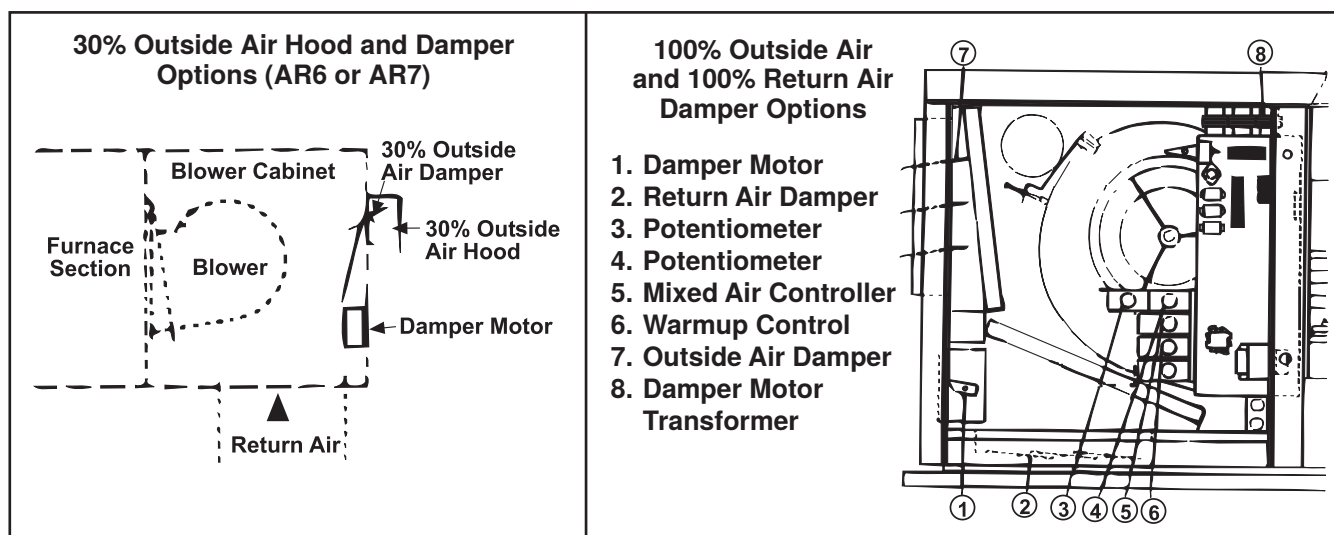

Figure 19. Damper Controls
- For specific damper control options (see Figure 19), refer to the wiring diagram provided with the unit. To adjust dampers, refer to the Damper Linkage Adjustment section.